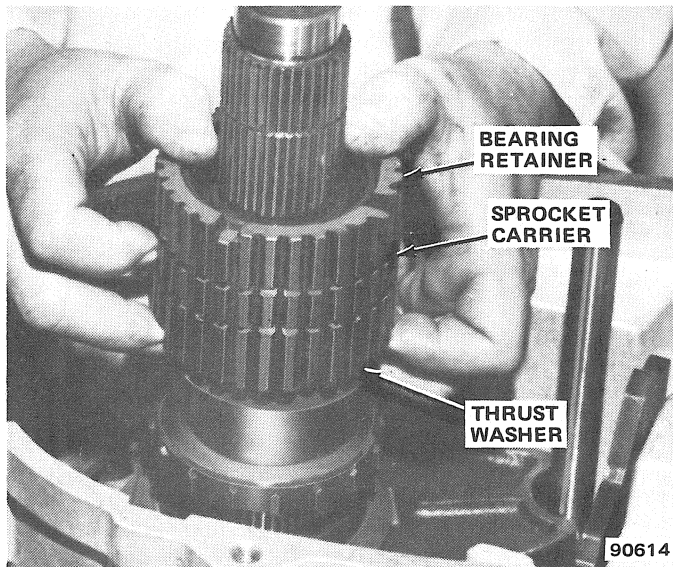

Fig. 2D-19 Sprocket Carrier, Bearing Retainers, Thrust Washer and Needle Bearing Removal
(24) Remove planetary thrust washer and remove planetary assembly (fig. 2D-22).